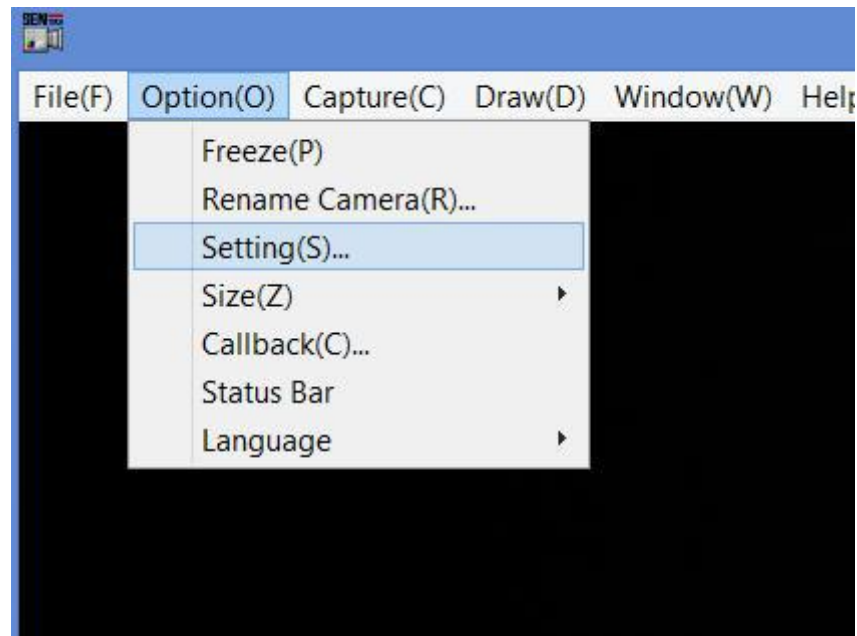

Figure 34 StCamsWare GUI
32. At StCamsWare , Go to Option and Select Setting as below Figure 34.